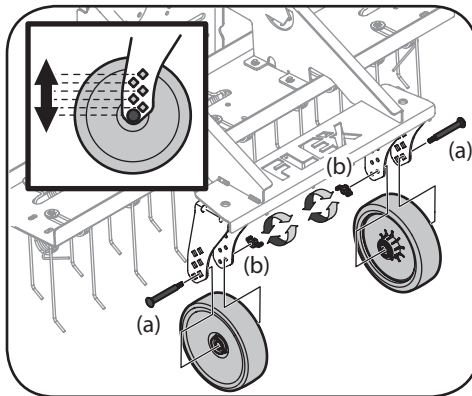

Figure 4-5
- Remove the axle bolts (a) and wing nuts (b) securing both the right and left wheels. See Figure 4-5.
- To raise the dethatcher, align the center holes of both wheels with a hole lower on the axle. See Figure 4-5.
- To lower the dethatcher, align the center holes of both wheels with a hole higher on the axle. See Figure 4-5.
- Secure the wheels in place with the axle bolts and wing nuts removed in step 1. Ensure that the height setting used on each side is level, coinciding with the opposite side. See Figure 4-5.